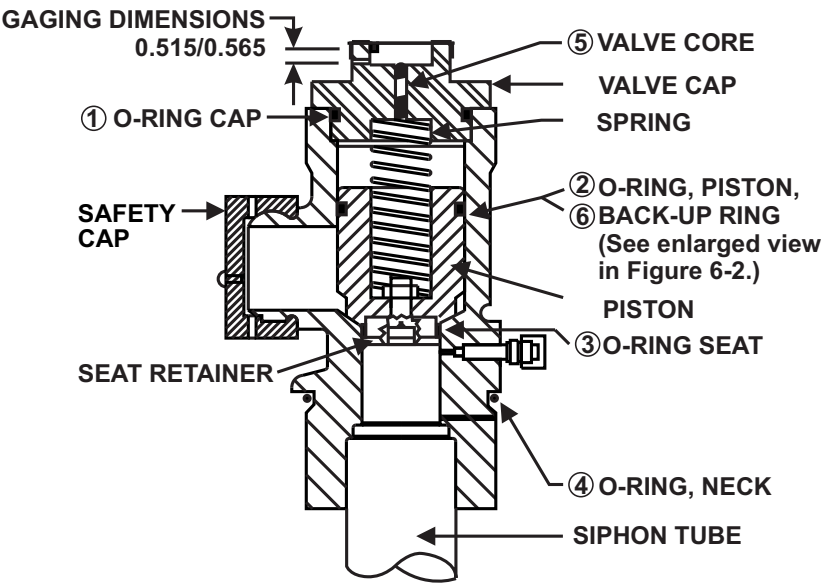
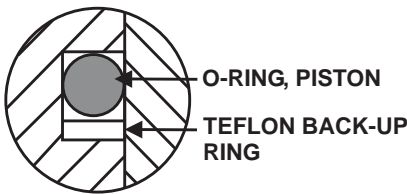

Figure 6-1. Valve Assembly (1 1/2", 2", and 2 1/2")
Figure 6-2. Piston O-Ring
Refer to Figure 6-1, Figure 6-2, Table 6-1, and Table 6-2.
**After reinstalling a Schraeder core, the distance from the top of the core pin to the control head seating surface must fall between the dimensions of 0.515 in to 0.565 in (13 mm to 14 mm) when in the “shut” or non-actuated position (see Figure 6-1).**
**Note:** The items refer to Figure 6-1.
Make certain that the Teflon® back-up ring is below the O-ring as shown in Figure 6-2.